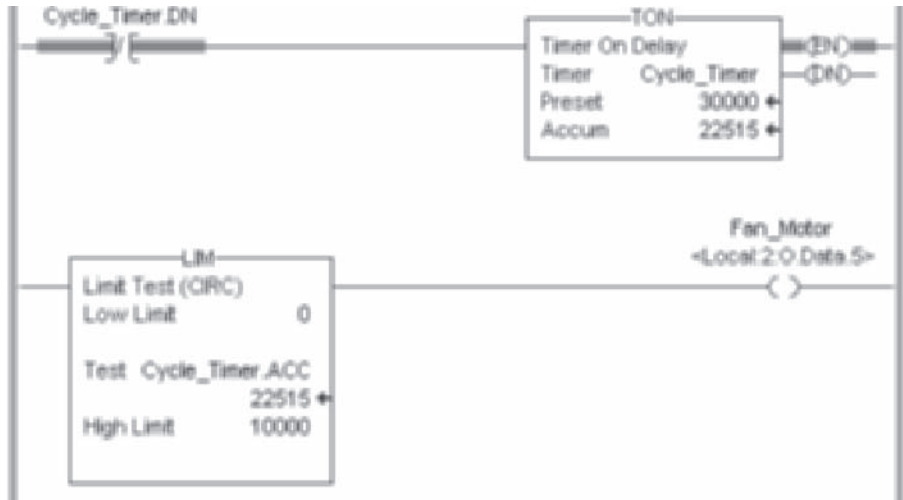

Figure 7-18 Use of a LIM instruction in RSLogix 5000.
Figure 7-18 shows the use of a LIM instruction. If the value in Cycle_Timer.ACC is greater than or equal to the Low Limit value (0) and less than or equal to the High Limit value (10000), the rung will be true and the output Fan_Motor will be energized. Note that tags could have been used for the Low Limit and High Limit parameters.